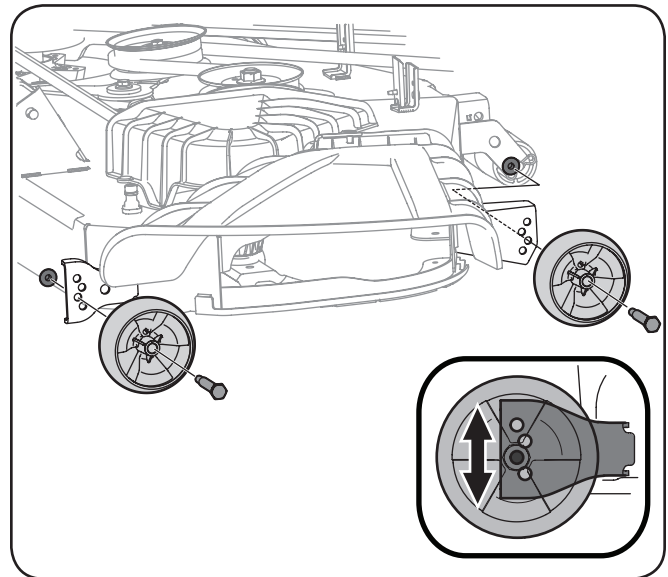

Figure 3-10
- b. Remove the front deck wheels by removing the flange lock nuts and shoulder bolts that secure them to the deck. See Figure 3-10.